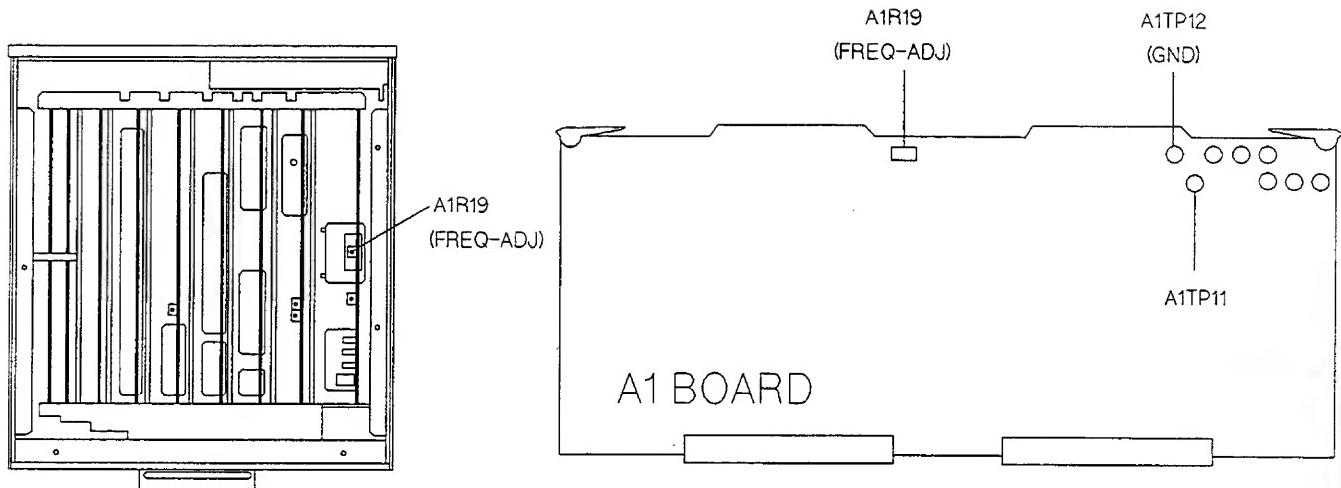
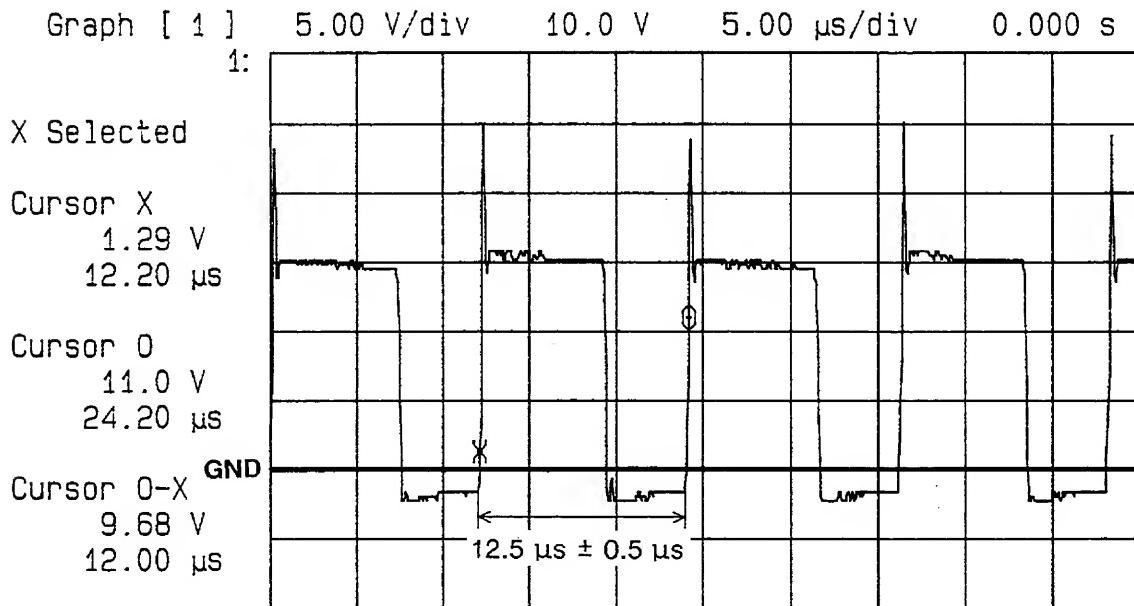

Figure 2-4. Power Supply Frequency Adjustment Location
Figure 2-5. Switching Waveform
4. Connect the probe's ground lead to A1TP12 (**GND**). Then connect the probe's tip to A1TP11. Figure 2-4 shows the location of TP11 and TP12.
- Adjust A1R19 (FREQ-ADJ) until the period (T), of the waveform, is $12.5 \mu s \pm 0.5 \mu s$, as shown in Figure 2-5. Figure 2-4 shows A1R19's location.